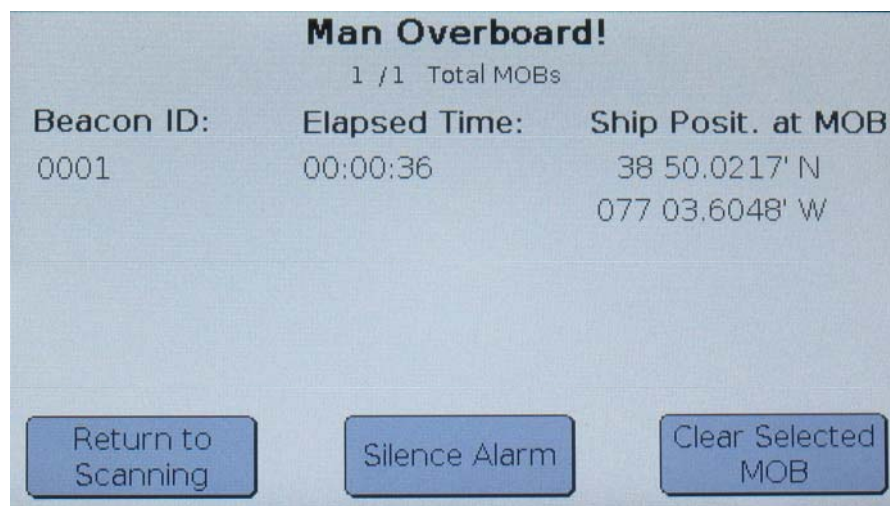

Figure 4
**Own Ship Beacon:** When a beacon that is programmed to your own ship is activated and within range, the buzzer will activate with a warble tone and the LCD screen will change to the alert screen. See figure 4. The words "Man Overboard!" will appear along with the beacon ID, elapsed time since the alarm sounded and the ship's position at the time of the MOB (if GPS antenna is installed and connected).